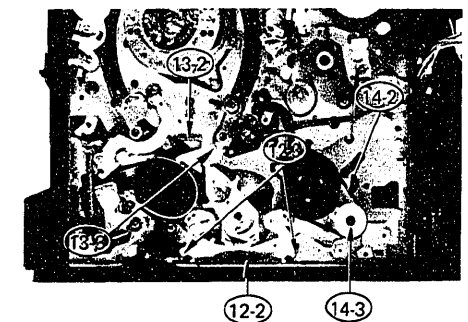

Fig. 30 Main Brake, Sub-Brake, Load Pulley
13. Main Brake (Supply/Take-up) (Fig. 30)
- 1) Remove the cassette holder. (Refer to item 4-1.)
14. Supply Sub-Brake (Fig. 30)
15. Load Pulley (Fig. 30)